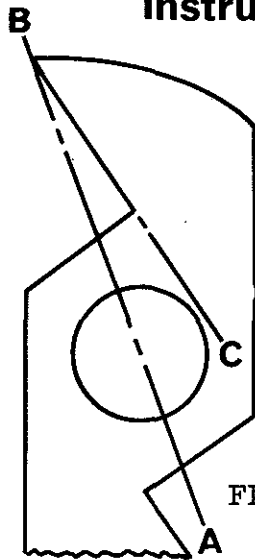

FIG. 1
This method involves grinding the cutter on an arbor between centres. The machine should be set to grind the face of the cutter so that angle ABC, in Fig. 1 is the same after grinding as it was originally.
Before regrinding the cutters by this method, ensure that the check chart supplied with the cutters is to hand. To check the angle of the cutters, place the new ground face, i.e. line BC, in Fig. 1, against that of the check chart and when the angle is correct, the bore of the cutter should correspond to that of the check chart. This ensures that the correct angle is maintained at all times.
1. A slight variation in the angle ABC, in Fig. 1 on opposite wings of the cutter is not too important, but for the best results, avoid having the point "B" in Fig. 1 or its opposite on a different radius. This would cause one cutting edge to do all the cutting and would make the cutter out of balance and cause vibration.